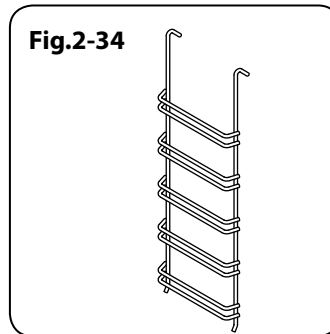

Fig.2-34
- Four ladder shelf supports (Fig.2-34)